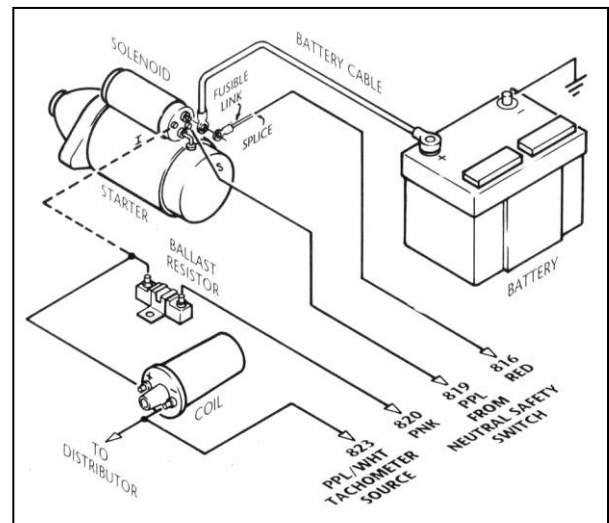

Figure 6.4 GM ignition system
6.2.4 GM Ignition (Start/Run) System. See Figure 6.4.
- C. Connect ENGINE SECTION A wire #819 purple to the starter solenoid start (S) terminal.
- F. A 14-gauge wire connected from the starter solenoid ignition (I) terminal to the ignition coil side of the ballast resistor is optional. This wire (the dashed line in **Figure 6.4**) serves as a ballast resistor bypass during engine starting. However, if the starter solenoid shorts out, which is not unusual, the engine will stop running and will not restart as long as this wire is connected. You may therefore choose to omit it. If you are not using a ballast resistor, leave the starter solenoid ignition (I) terminal unconnected and do not install the bypass wire.